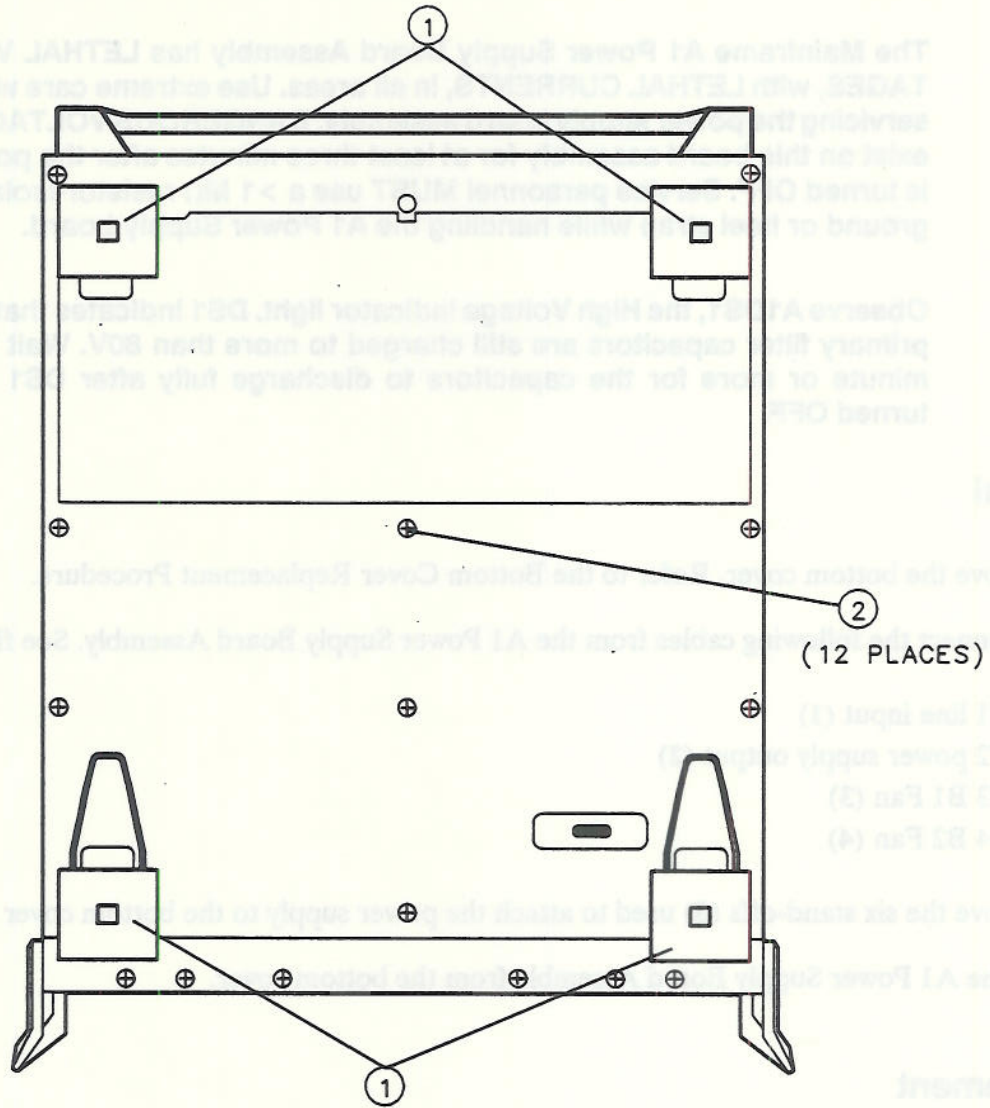

Figure 5-2. Bottom Cover Replacement
5. Remove all four bottom feet (1). See figure 5-2.
6. Remove the 12 bottom-cover screws (2).
10. Replace the 12 bottom-cover screws (2). See figure 5-2.